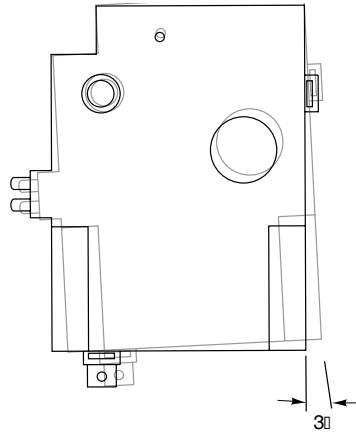

Figure-6 CCW Mounting.
6. Rotate controller Clockwise (CW) about three degrees off centerline of VAV terminal and tighten output shaft set screws to 25 in-lb (0.28 Kg-meter). See Figure-6.